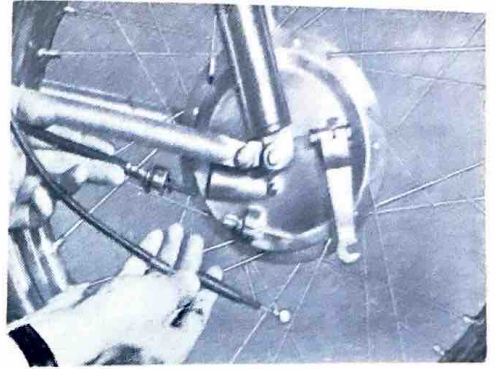

Fig. 4-1-1
- a. Disconnect the front brake cable and speedometer cable from the front brake shoe plate. (Fig. 4-1-1)